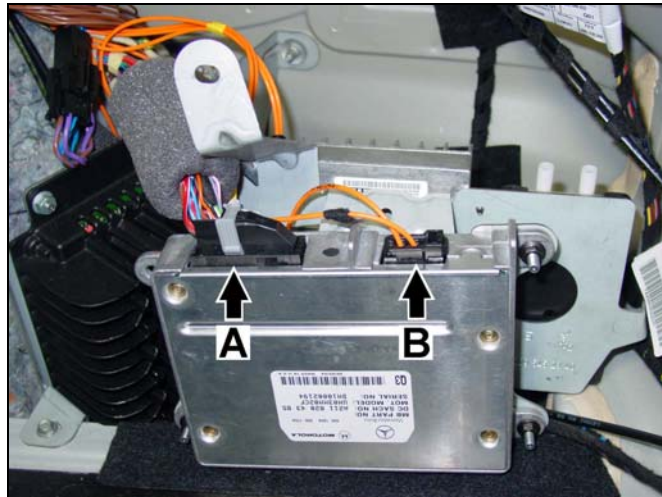

Figure 21
2. Place the UHI/linear compensator/antenna splitter bracket assembly near its mounting place (Figure 21).
3. Connect the UHI power supply connector to the UHI control module (A, Figure 21).
4. Connect the UHI MOST connector to the UHI control module (B, Figure 21).